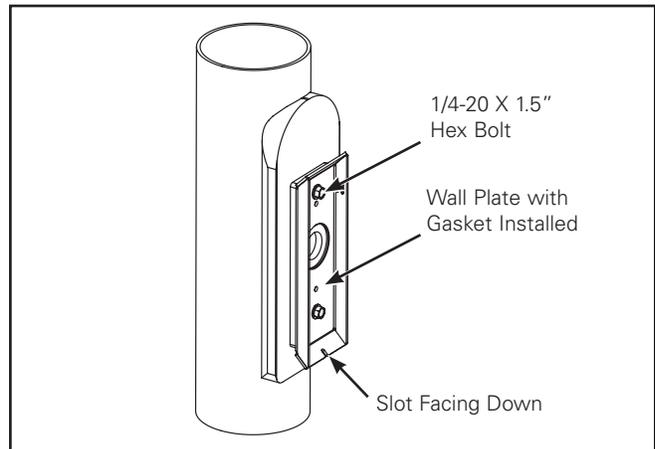

Figure 3.
2. Fasten housing mounting plate, slot facing downward, with 2 x 1/4"-20 hex bolts as shown. Tightening torque shall be 50 in-lbs. (Figure 3.)